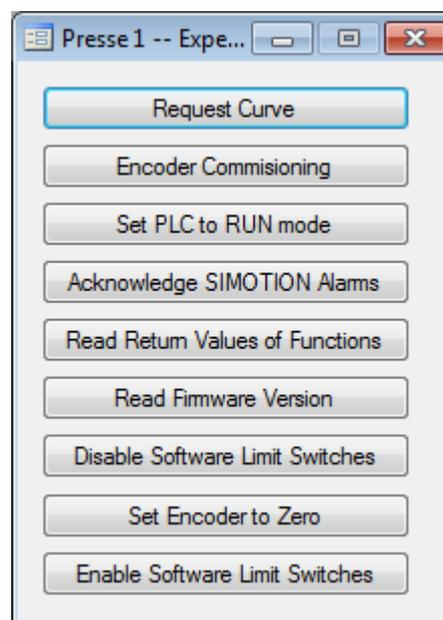

Figure 1: "Expert" control menu
1. In the project tree of the MecaMotion software, right-click on the "Press" tab, in the drop-down menu that appears, select "Expert control". The window in Figure 1 opens.